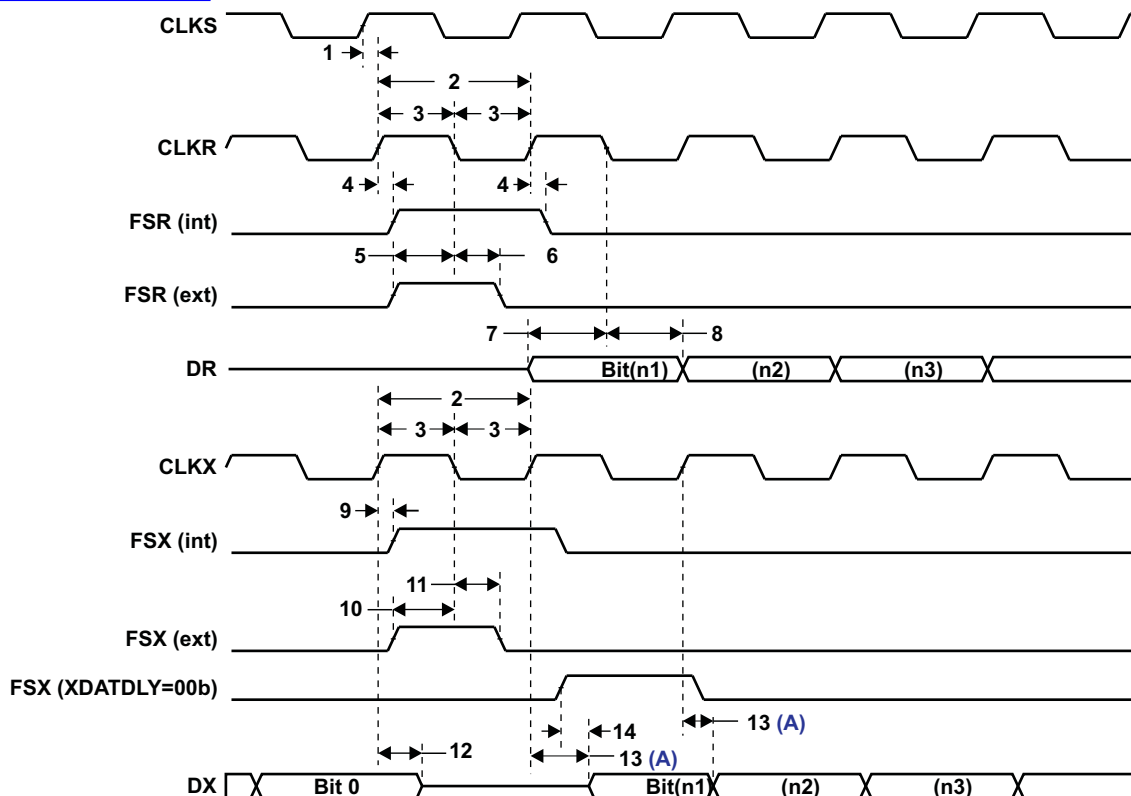

Figure 6-32. McBSP Timing(B)
**Table 6-62. Timing Requirements for McBSP1 [1.0V](1) (see Figure 6-32)**
(see Figure 6-32)